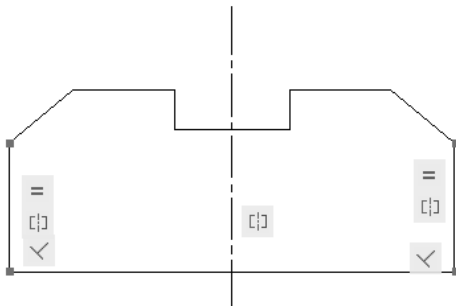

Figure 11-14 Sketch after applying the symmetric constraint
26. Select the centerline as the symmetry line; the vertical lines will become symmetric to the centerline and also the symmetric symbol will be displayed, as shown in Figure 11-14. Note that in this figure, other constraints are hidden for the purpose of clarity.